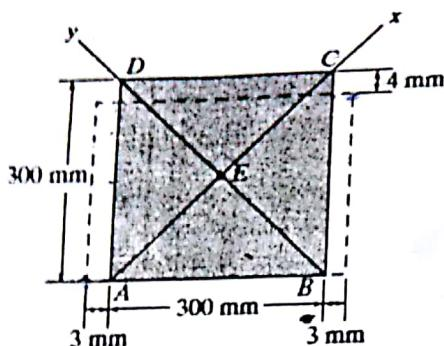

Fig. 5
5. The square plate is deformed into the shape shown by the dashed line in Fig. 5. Determine the average normal strain along diagonal  $AC$  and the shear strain of point  $E$  with respect to the  $x$  and  $y$  axes. [ $(\epsilon_{AC})_{avg} = 0.00347 \text{ mm/mm}$ ;  $(\gamma_E)_{xy} = -0.0332 \text{ rad}$ ]  $\checkmark$